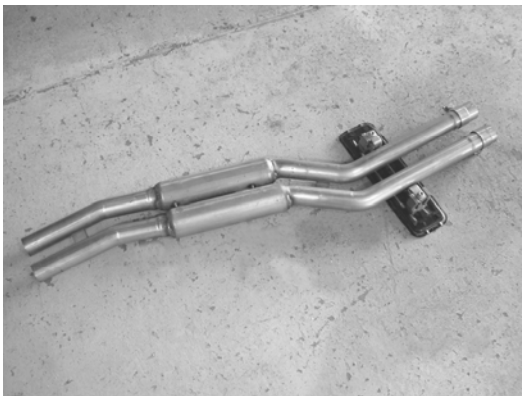

Figure 10
3. Using the original hardware, install rear center support as shown in figure 10 onto mid muffler assembly.